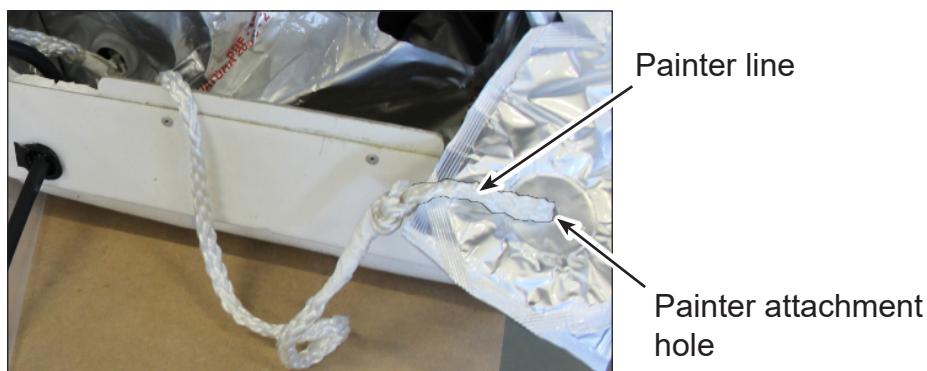

FIGURE 207
- 4.2.2 Disconnect the painter line from the painter attachment hole. Refer to **Figure 207**.